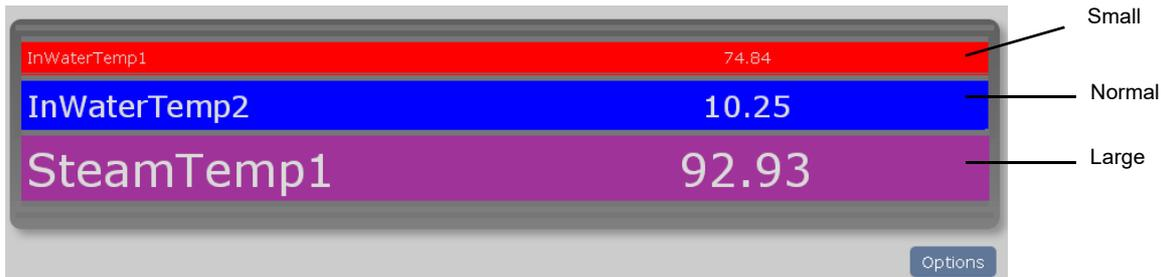

Figure 155 Comparative Font sizes
Allows Small, Normal or Large to be selected for either or both the point name and its associated value. Figure 155, below, shows all three values for comparison, although it is not possible to display more than one size at a time.
**Note:** Figure 155 shows the same font size used for both the point identifier (Channel Font Size) and the value (PV Font Size). It is also possible to use one font size for the channel and another for the PV.